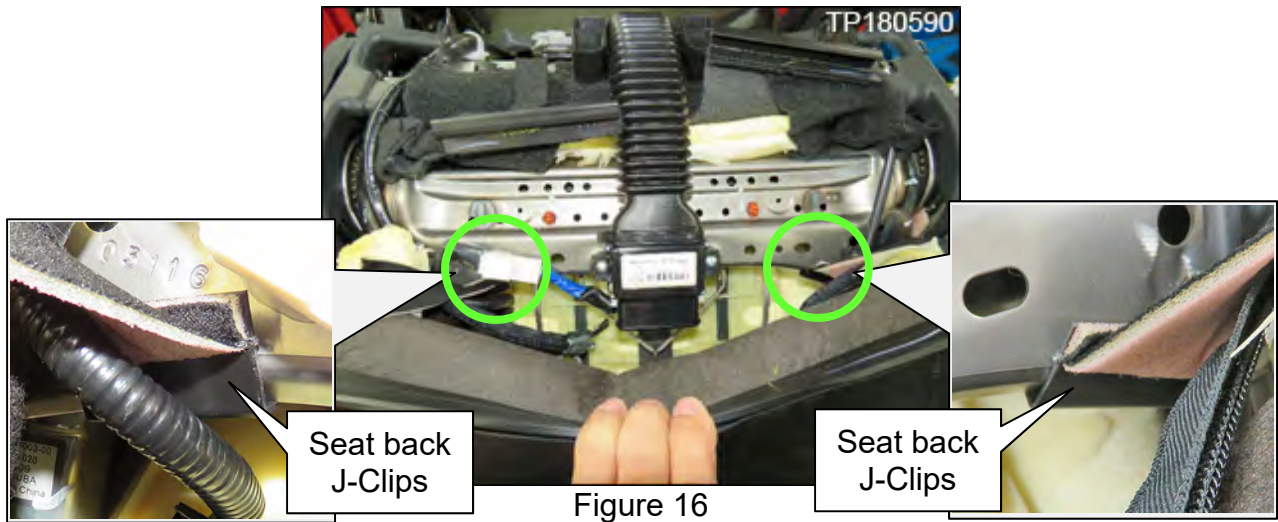

Figure 16
14. Detach the two (2) seat back J-Clips.
15. Detach both the left and the right side seatback trim J-Clips shown in Figure 16 from the seat frame.